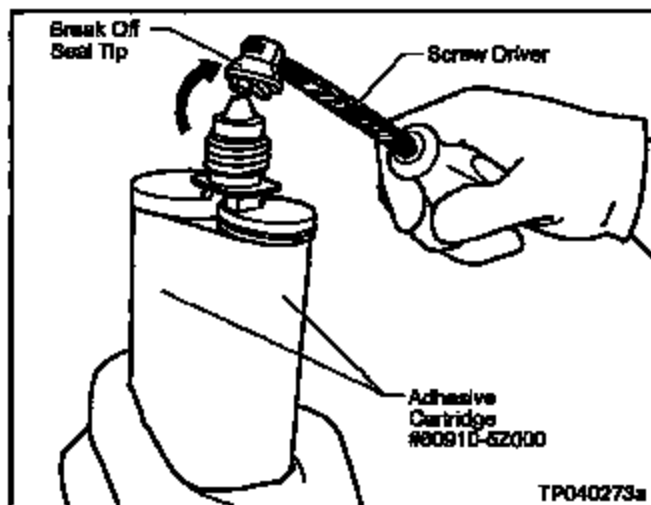

Figure A5
- a. Remove the cap and break off the Adhesive Cartridge Seal Tip (see Figure A5).